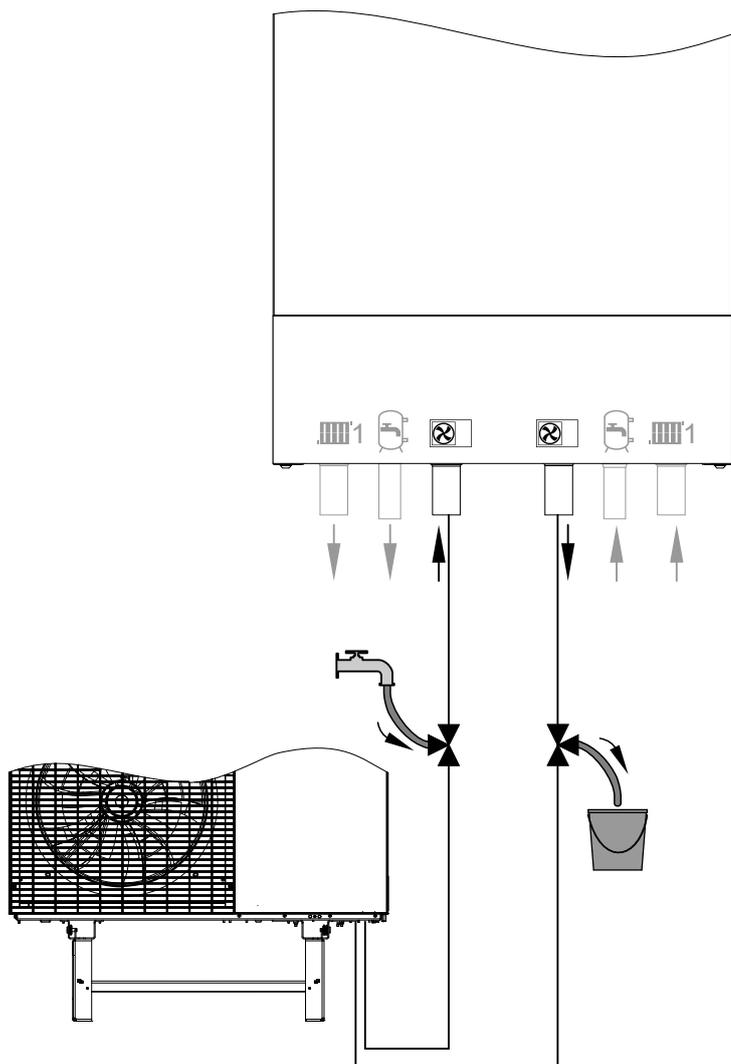

Fig. 56
3. Open the outdoor unit 3-way flow and return ball valve as shown in Fig. 56: **Open in all directions**. Allow the heating water to flow in via the fill hose.